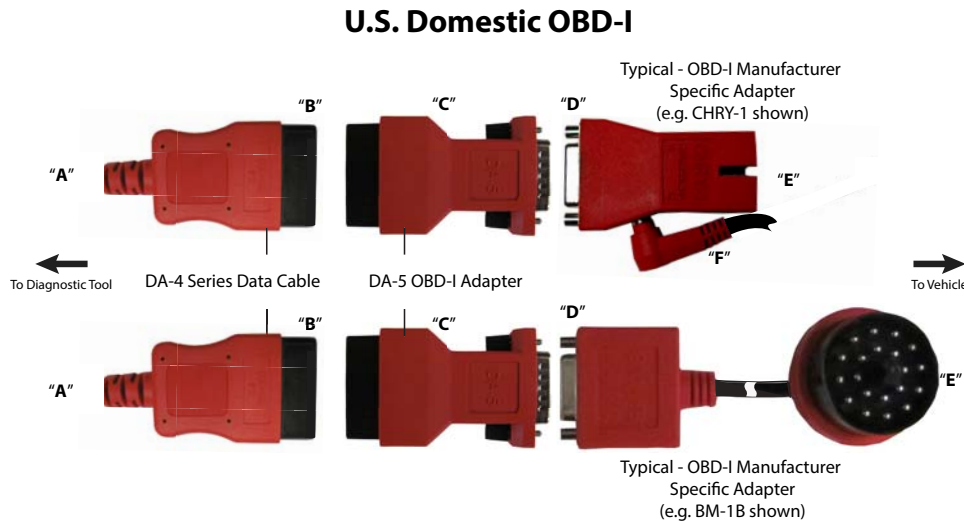
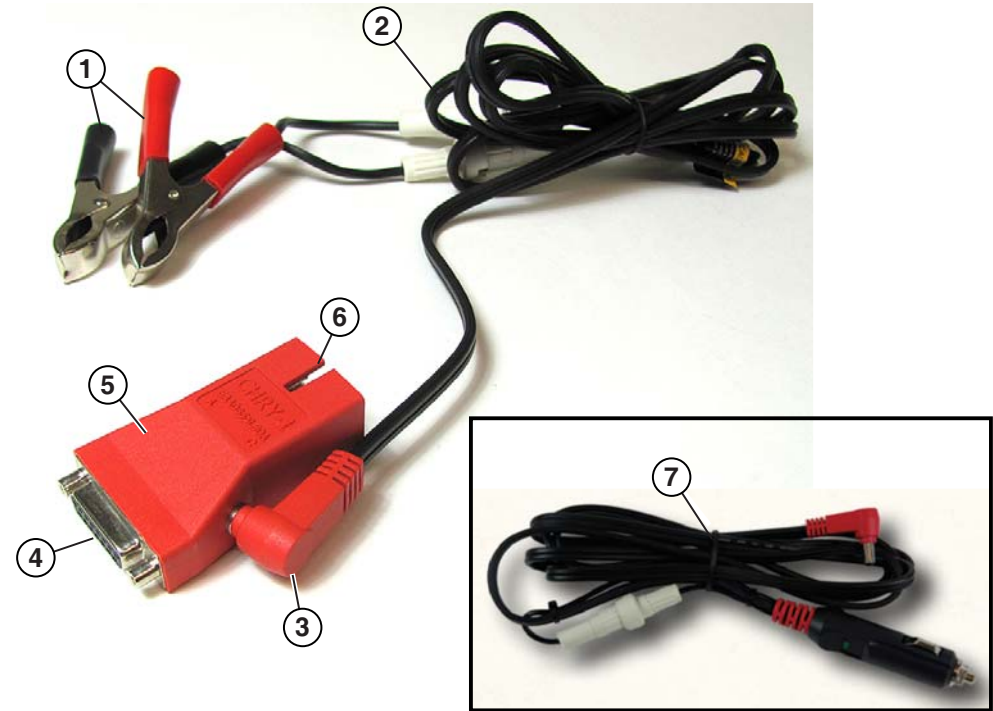

Figure 3-4
Figure 3-5
For most OBD-I (non-OBD-II/EOBD) compliant vehicles you can use the supplied data cable with the optional DA-5 adapter, and an optional manufacturer specific OBD-I adapter (Figure 3-4).
- The 26-pin end "A" of the cable (Figure 3-4) connects to the diagnostic tool.
- The 16-pin end "B" of the cable (Figure 3-4) connects to the DA-5 adapter "C".
- One end of the manufacturer specific adapter "D" (Figure 3-4) connects to the DA-5 adapter.
- The other end of the manufacturer specific adapter "E" (Figure 3-4) connects to the vehicle.
OBD-I adapters with a power jack MUST be connected to the vehicle battery using an accessory power cable "F" (Figure 3-4). See Figure 3-5 for additional information.
Figure 3-5 shows a typical OBD-I adapter (with power jack). This type of adapter MUST be connected to the vehicle battery, using either of the power cables shown.